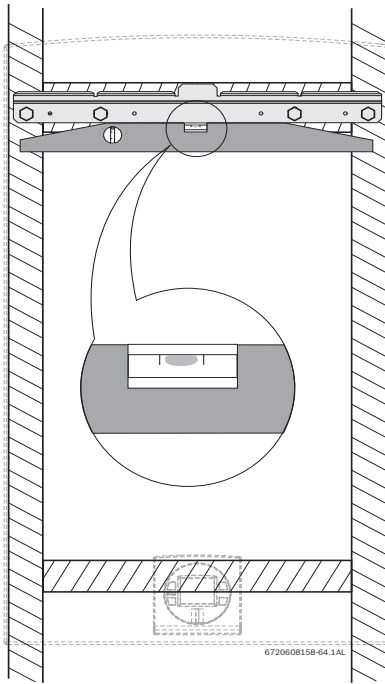

Fig. 26 Leveling wall mounting bracket
- ▶ Secure the wall mounting bracket provided with the heater to a wall surface. The heater must be kept level on the wall surface, see Fig. 26, page 22.